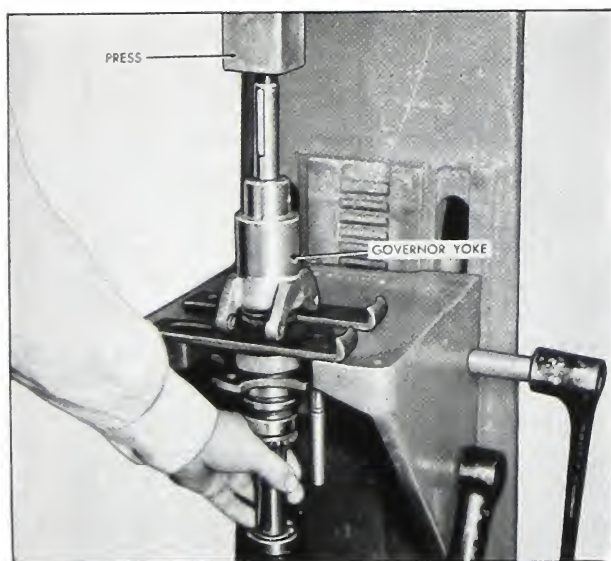

Fig. 5-50. Removing governor yoke
2. Pull or press the governor yoke from the governor shaft, being very careful not to damage the yoke. (Fig. 5-50).